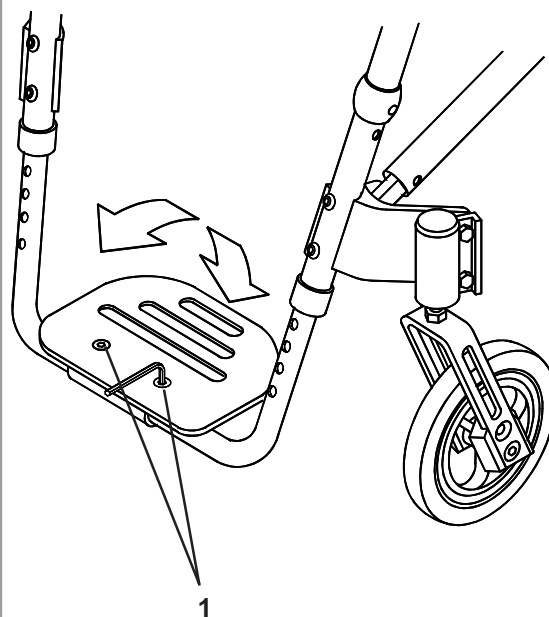

Fig. 24
To adjust the angle of the footplate (Fig. 24) loosen the retaining screws (1) as shown, using a 5mm Allen key, sufficiently to allow the footplate to be rotated to the desired position. Tighten to 7-12Nm torque.